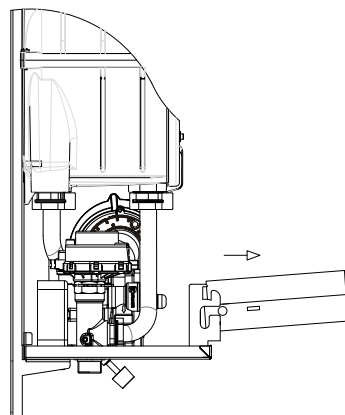

Fig.52
8.23 TO REMOVE/REPLACE CONTROL BOARD (Fig.52).
Remove the panel control box (sect. 8.22), and let it fix at the depression chamber like in fig. 52.